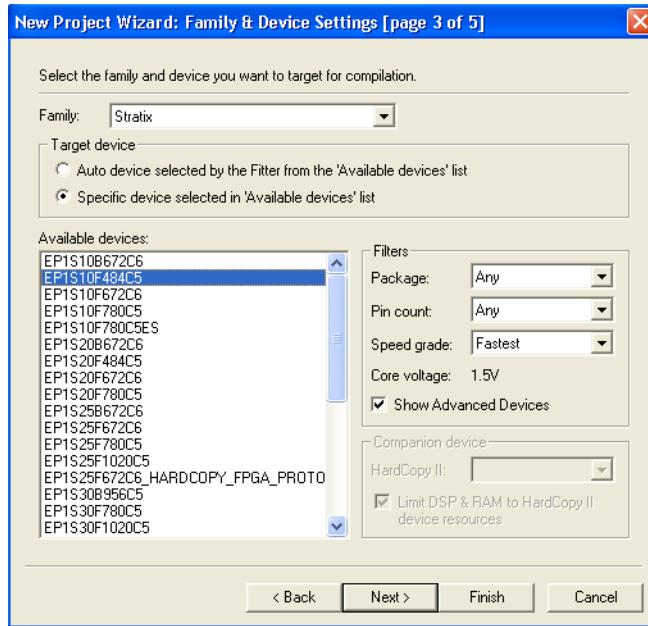

Figure 7: Choose the device family and a specific device.
3. This window makes it easy to specify which existing files (if any) should be included in the project. Assuming that we do not have any existing files, click Next, which leads to the window in Figure 7.